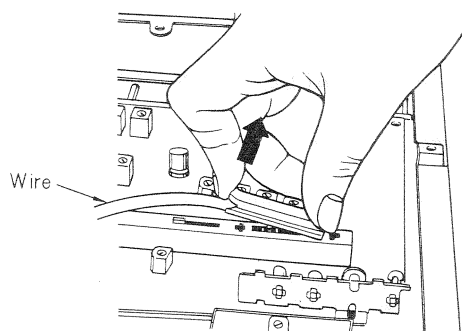

Fig. 22
9. Remove the switch wire in the direction of arrow, as shown in fig. 22.